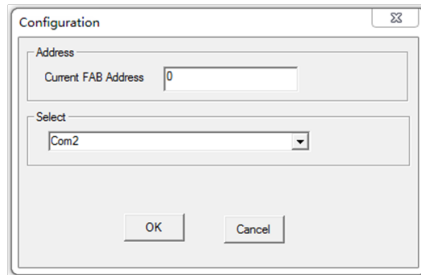

Fig 4.23
2. A dialogue box appears, as shown in Fig. 4.23.